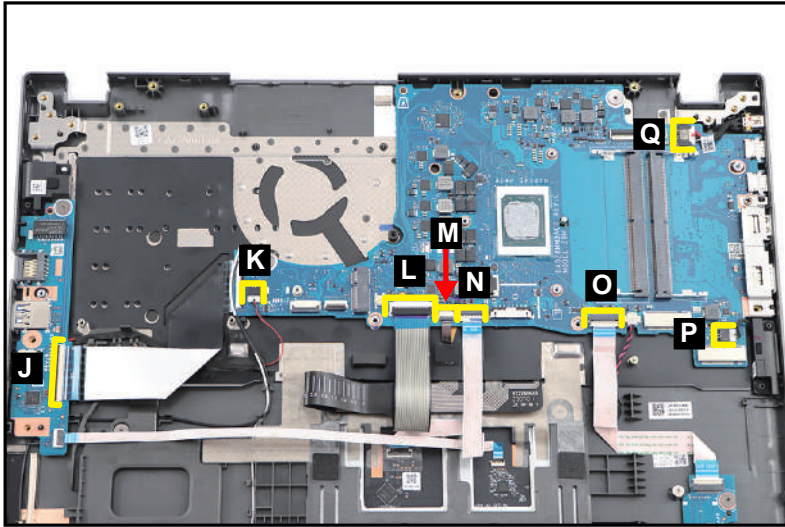

Figure 3-111. Replacing the Mainboard
8. Connect the USB board FFC to the USB board connector (J) (Figure 3-111).
9. Connect the right speaker cable to the mainboard connector (K) (Figure 3-111).
10. Connect the keyboard FPC to the mainboard connector (L) (Figure 3-111).
11. Connect the keyboard backlight FPC to the mainboard connector (M) (Figure 3-111).
12. Connect the touchpad FFC to the mainboard connector (N) (Figure 3-111).
13. Connect the card reader board FFC to the mainboard connector (O) (Figure 3-111).
14. Connect the left speaker cable to the mainboard connector (P) (Figure 3-111).
15. Connect the DC-IN cable to the mainboard connector (Q) (Figure 3-111).